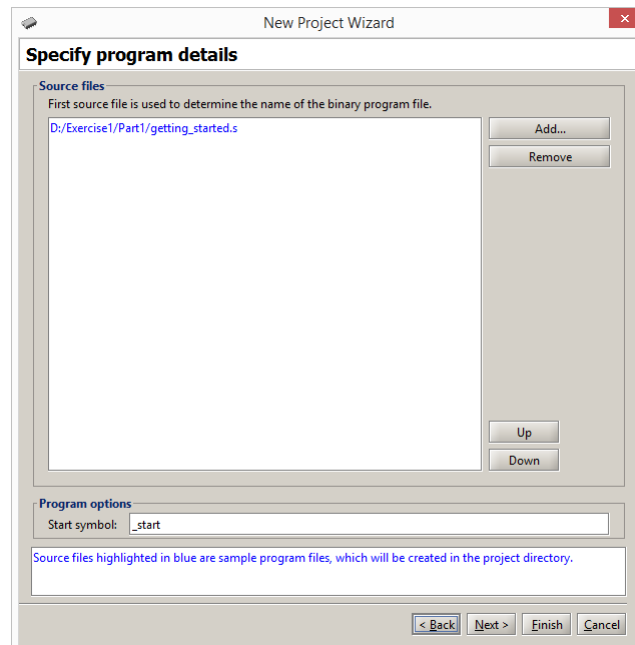
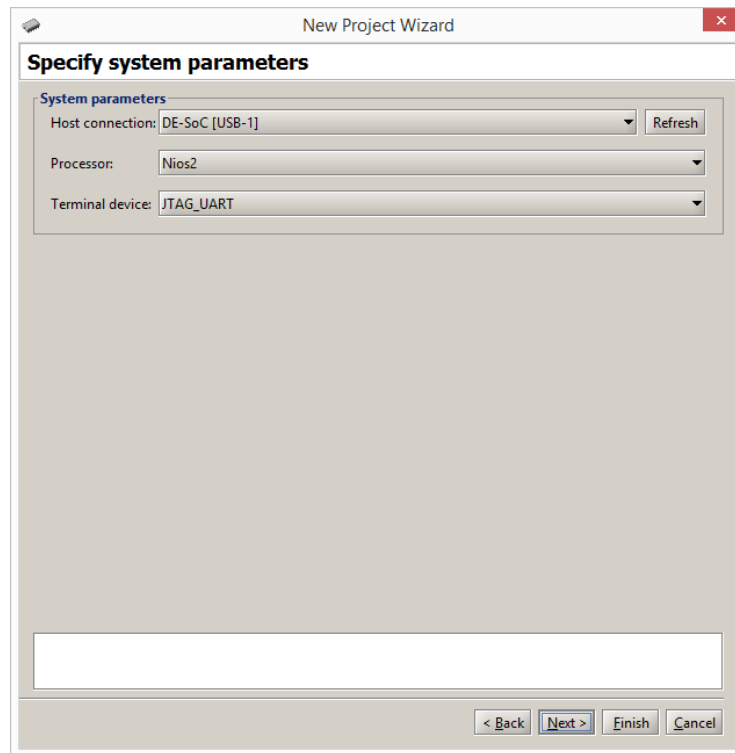
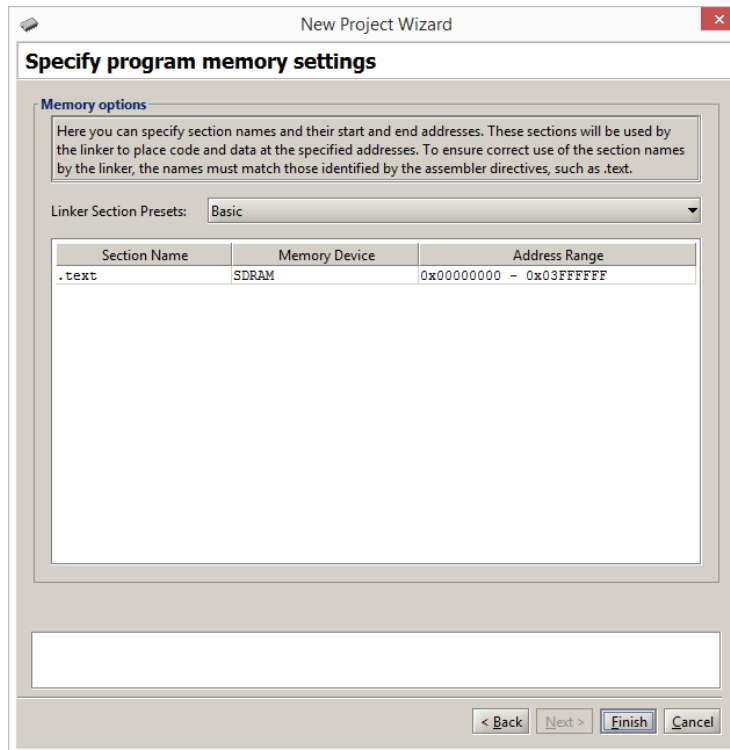

Figure 5: Source files used by the application program.
Figure 6: Specify the system parameters.
Figure 7: Specify the program memory settings.
5. The window in Figure 5 is used to specify the source file(s) that contain the application program(s). Since we have selected the *Getting Started* program, the window indicates the source code file for this program. This window also allows the user to specify the starting point in the selected application program. The default symbol is `_start`, which is used in the selected sample program. Click Next.
6. The window in Figure 6 indicates some system parameters. Note that the figure indicates that the *DE-SoC [USB-1]* cable is selected to provide the connection between the DE0-Nano-SoC board and the host computer. This is the name assigned to the Intel USB-Blaster connection between the computer and the DE0-Nano-SoC board. For the DE0-Nano, the connection is called *USB-Blaster*. Click Next.
7. The window in Figure 7 displays the names of Assembly sections that will be used for the program, and allows the user to select a target memory location for each section. In this case only the *.text* section, which corresponds to the program code (and data), is defined. As shown in the figure, the *.text* section is targeted to the SDRAM memory in the Computer, starting at address 0. Click Finish to complete the specification of the new project.
2. Upon reaching the window in Figure 5, you have to specify the source code file for your program. Click **Add** and in the pop-up box that appears indicate the desired file name, *part2.s*. Click **Next** to get to the window in Figure 6. Again click **Next** to get to the window in Figure 7. Notice that the SDRAM is selected as the memory device. Your program will be loaded starting at address 0 in this memory. Click **Finish**.